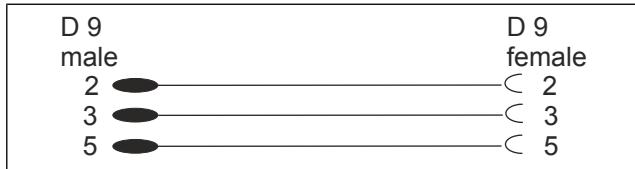

Fig. 7. Serial cable needed to set the baud rate.
2. Connect an RS232 serial cable between the board and a PC. Use for example the Programming cable (code K03463) supplied by Valmet. The cable type is illustrated in Fig. 7.